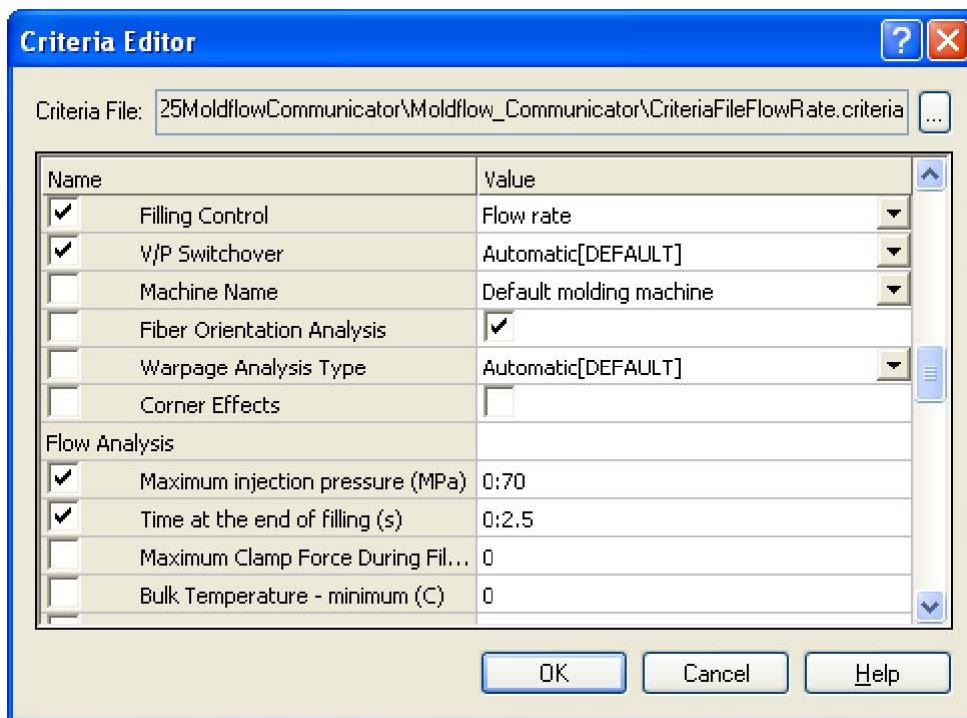

Figure 553: Criteria editor
1. Click **Tools** ➔ **Criteria editor...** to open the criteria editor dialog, shown in Figure 553.